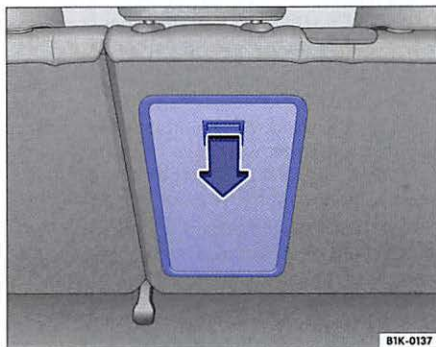

Fig. 86 In the luggage compartment: Opening the pass-through.
- Fold the pass-through cover back until it engages securely. The red mark on the luggage compartment side $\Rightarrow$ fig. 86 should not be visible.
The pass-through can also be opened from the luggage compartment. Press the release lever $\Rightarrow$ fig. 86 down and push the cover forward.